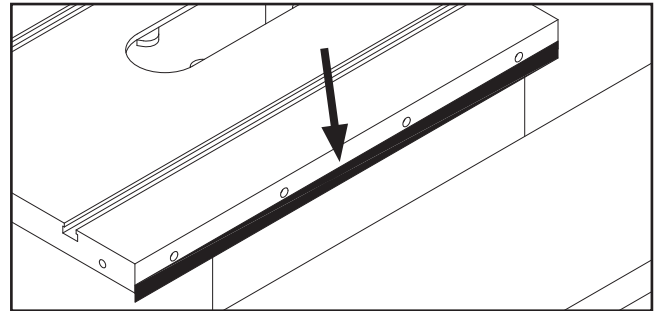

Figure 16. Masking tape location for tilting the extension wing up.
- If outside end of extension wing tilts down, remove wing and place a strip of masking tape along bottom edge of main table to shim end of wing up (see **Figure 16**).